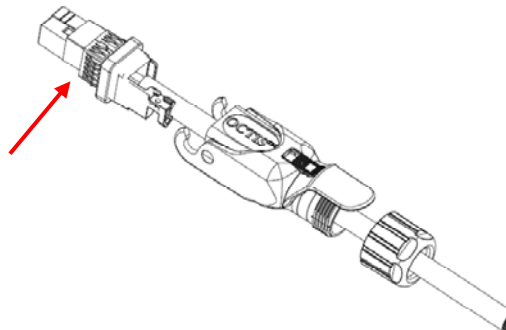

Figure 34
7. Push the cable connector into “holder kit combo power/signal” till the latch of the housing gets locked inside the respective slot of holder kit. (Fig 34)